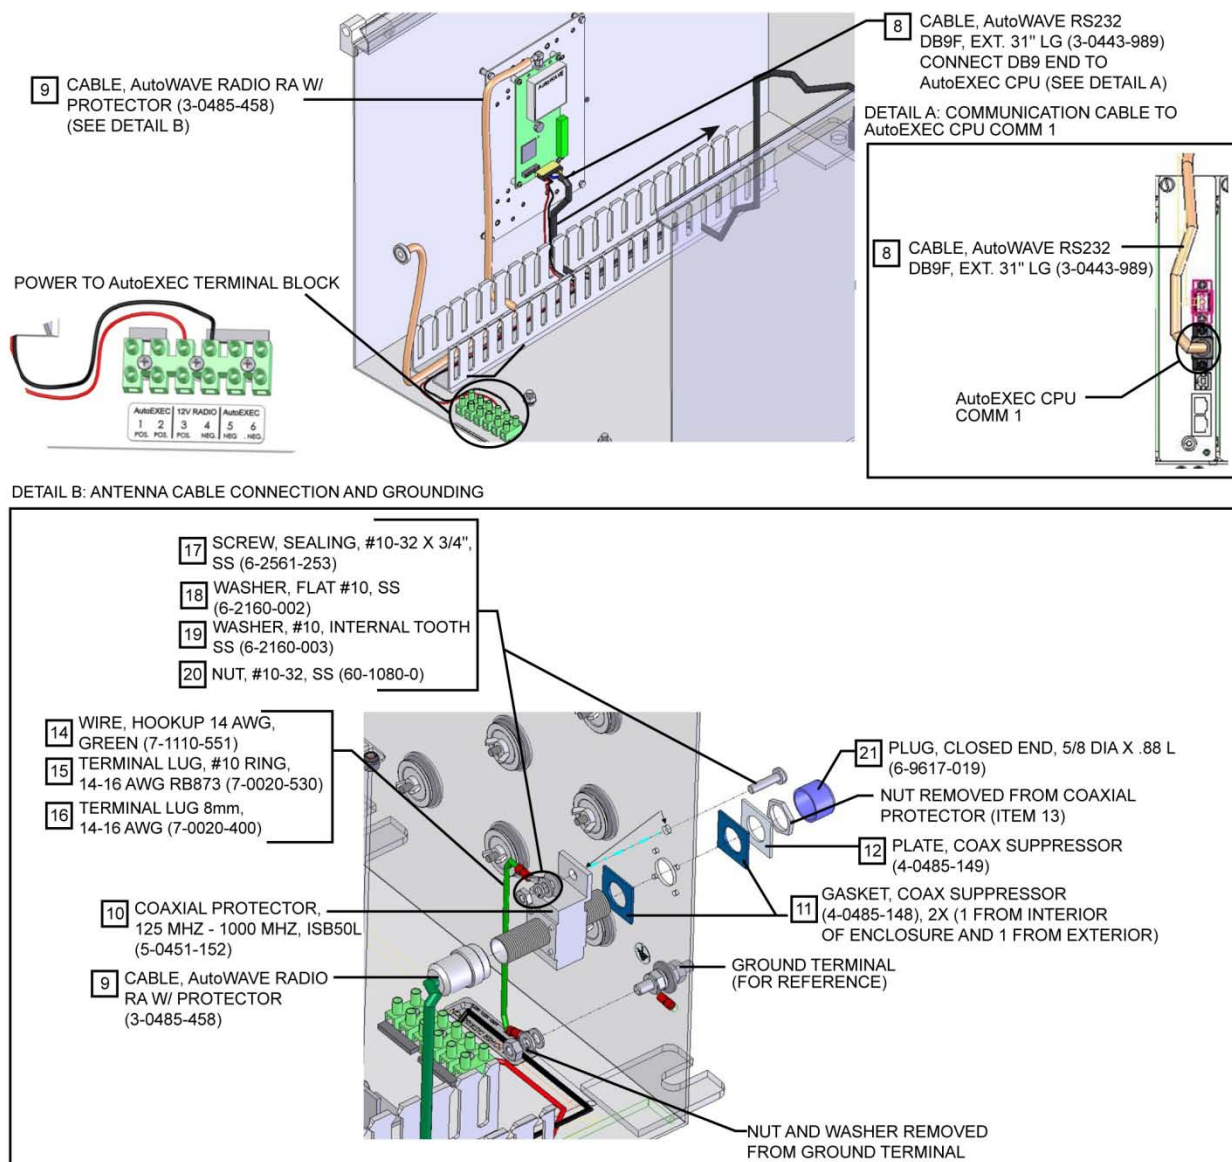

Figure 4-23. Radio connections
3. Reference Figure 4-23 for the following steps.
- a. Connect the power/communication cable (item 8):
- b. Connect the radio antenna cable (item 9) to the radio, and feed the cable length through the wire duct as shown.
- c. To connect the other end of the antenna cable (item 9):
- Remove the nut from the stud of the coaxial protector (item 10) and place a gasket (item 11) over the stud.
- Insert the coaxial protector (item 10) into the enclosure.